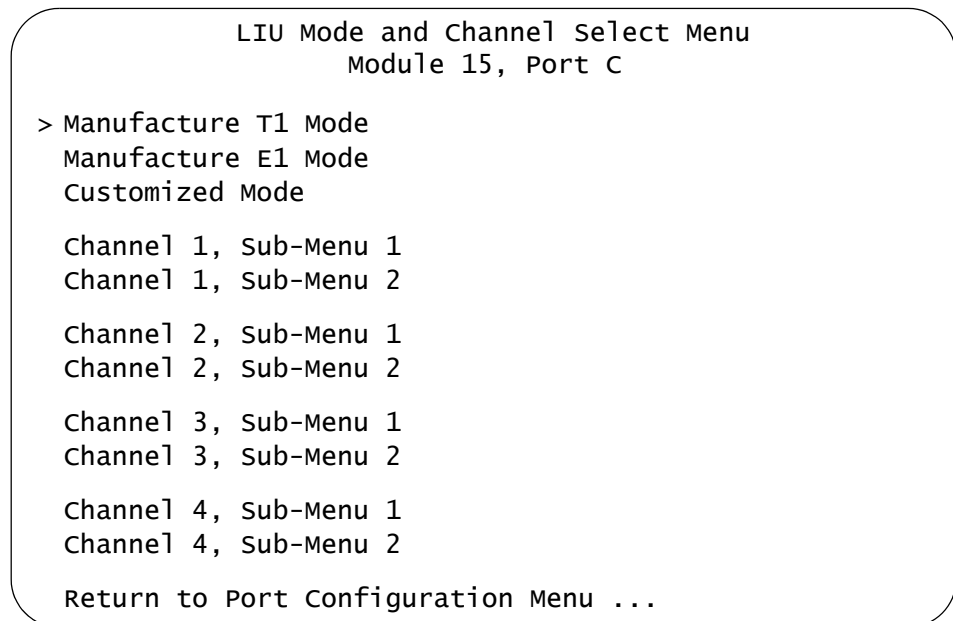

Figure 101. LIU Mode and Channel Select Menu
4. From the TDM Management Menu, select **TDM Port Configurations** to display the LIU Mode and Channel Select Menu, shown in Figure 101.